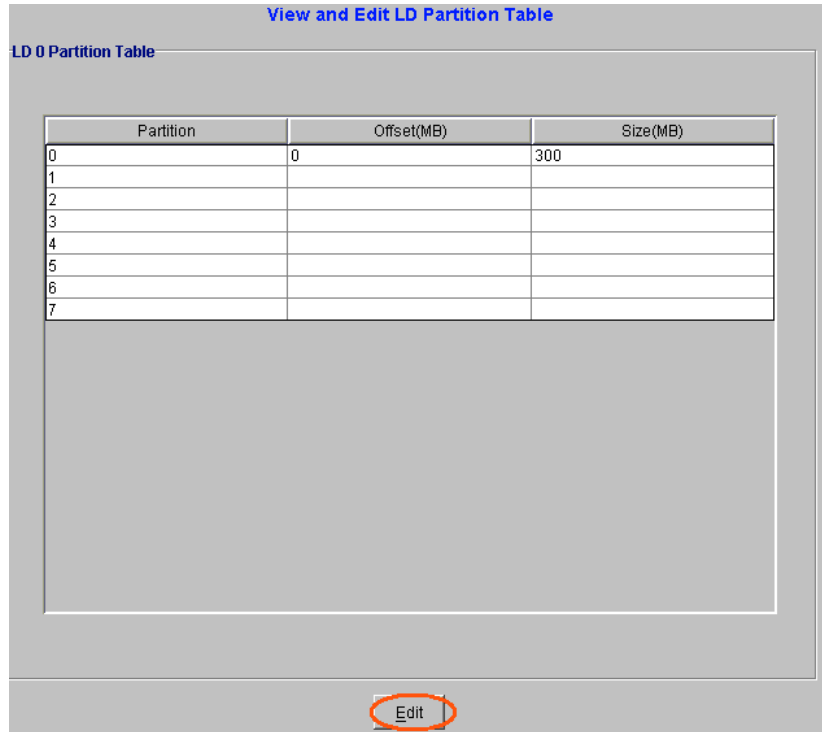

Figure 8-56: Partition Table
Step 2. From the list shown in *Figure 8-55*, select the LD that you wish to partition. Once this LD has been selected a “View and Edit LD Partition” table will appear in the content panel. See *Figure 8-56*.
- Step 3.** To create a new partition, edit an existing one, or remove an existing partition, click the Edit button at the bottom of *Figure 8-56*. You will be prompted for a password, enter it and click OK.